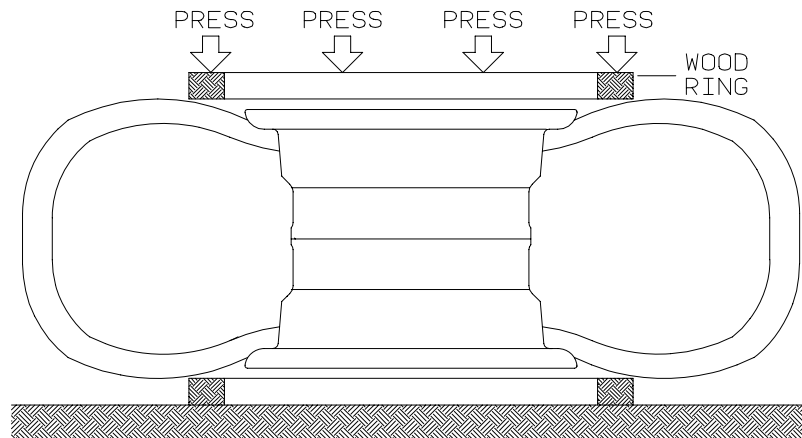

Figure 306 - Tire Removal
- (b) Separate tire beads from wheel halves, using a bead breaker or by applying pressure in even increments around the entire sidewall of the tire as close to the tire beads as possible. Suggestion: Fabricate two each rings from a substantially thick piece of plywood. The inside diameter should be slightly larger than the wheel rim outside diameter. Sandwich the wheel/tire between the two rings and apply pressure to the top ring. The tube well area of the wheel is tapered and once the bead is broken the tire should slide progressively easier. Ref. Figure 306.